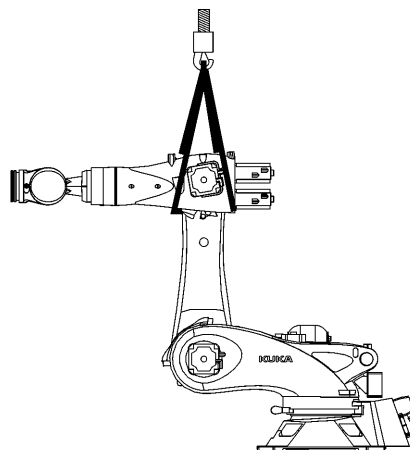

Fig. 11-3: Securing the link arm
1. Secure the link arm using a rope sling (>>> Fig. 11-3).